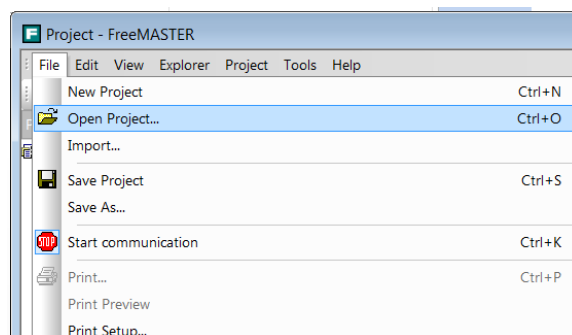

Figure 4. Opening FreeMASTER application
2. Click **File / Open Project...** (see Figure 4).